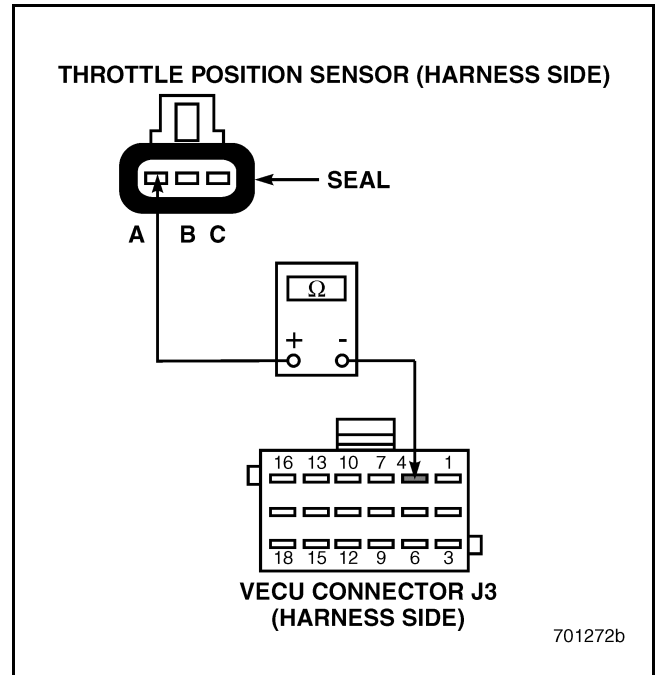

Figure 543
2. Disconnect the Throttle Position (TP) Sensor.
4. Check for continuity between VECU connector J3 pin 4 and TP Sensor harness connector pin A (see Figure 543).